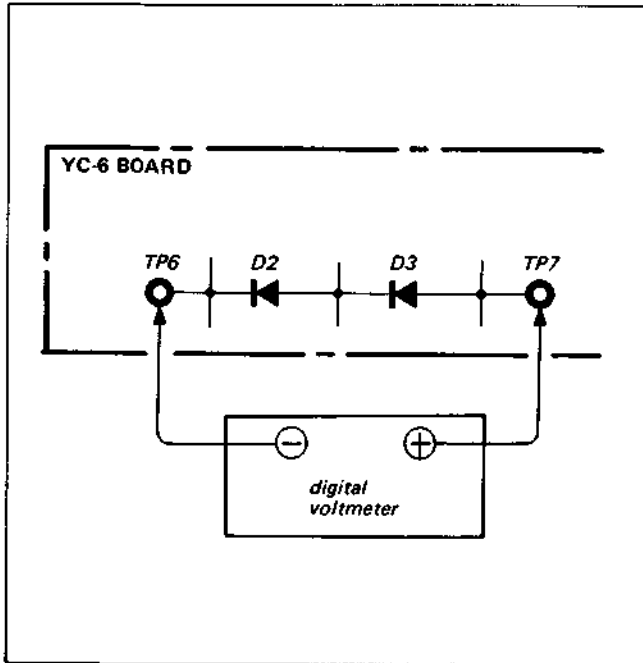

Fig. 4-4-5. Measurement points
- (1) Do not supply the VTR with any signal and set up the E-E mode.
- (2) Connect the digital voltmeter to the points shown in Fig. 4-4-5.